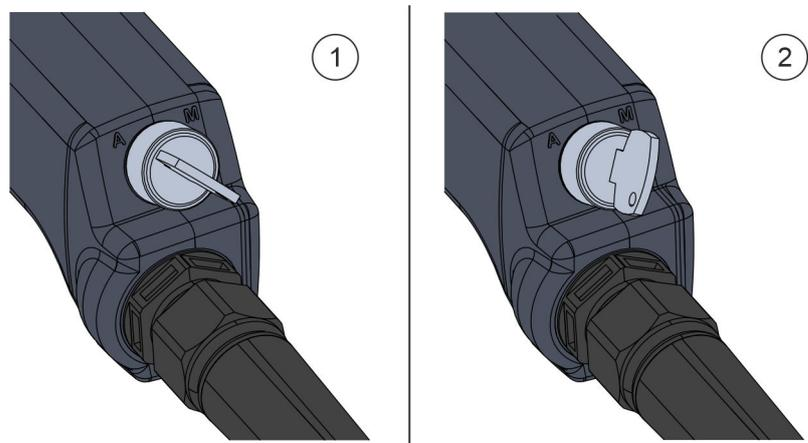

Fig. 34 Operating mode selection on the mode selector switch
- ① Mode selector switch position **Automatic mode**
- ② Mode selector switch position **Manual mode**
By turning the mode selector switch on the handheld controller, you can switch between automatic Fig. 34 / ① and manual Fig. 34 / ② modes.